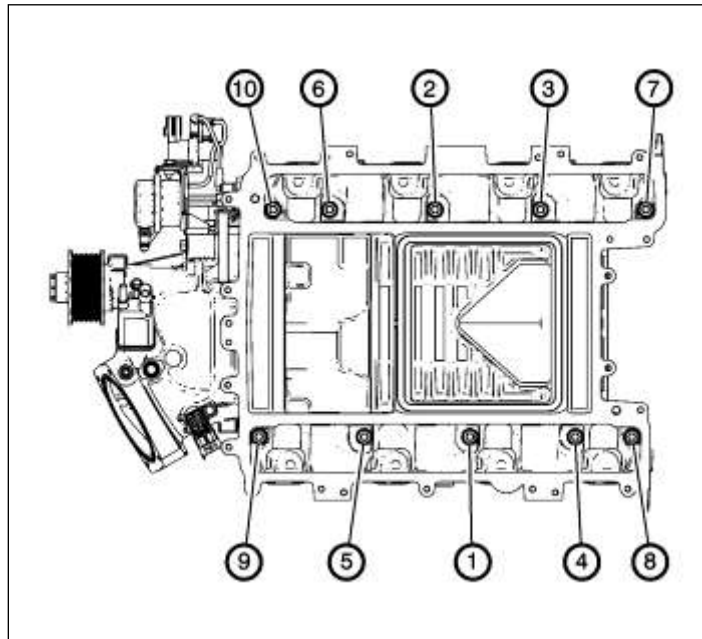

Figure 2: Manifold bolt torque sequence
- remove the 10 intake manifold/supercharger bolts one at a time, and put blue Loctite on the threads of each bolt and re-install. **Be sure to not drop anything down the intake runners!** Torque the bolts in the order shown below in figure 2 for a first pass of 44 lb-in and a second pass of 89 lb-in.